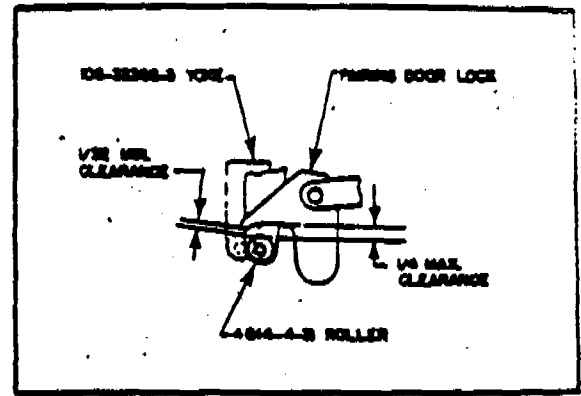

Figure 9 - Adjustment of Fairing Door Rollers
4. The yokes and rollers are to be adjusted with adherence to the following and reference to figure 9. There should be 1/32 to 1/16 inch between the tip of the hook and the roller when the roller is actuated with the fairing doors retracted under hydraulic pressure in the gear up position. This adjustment may be obtained by changing washers on the vertically positioned bolt which secures the upper portion of the yoke. Transpose the washers from the top to the bottom of the yoke or vice versa as required. If all washers are exhausted from above the yoke, then the 1/16-inch dimension may be increased, but only until a dimen-